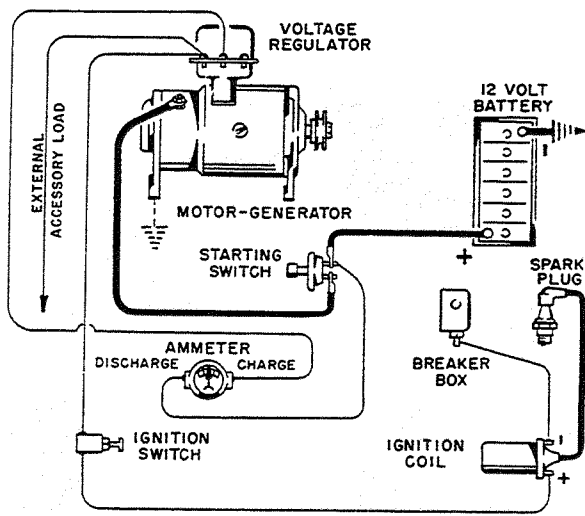

Fig. 14, WIRING DIAGRAM (with Battery Ignition)
*Battery ignition engines*, are wired in accordance with Fig. 14. This type ignition system has always been wired *negative ground*. Battery is not furnished by Wisconsin Motor Corporation.